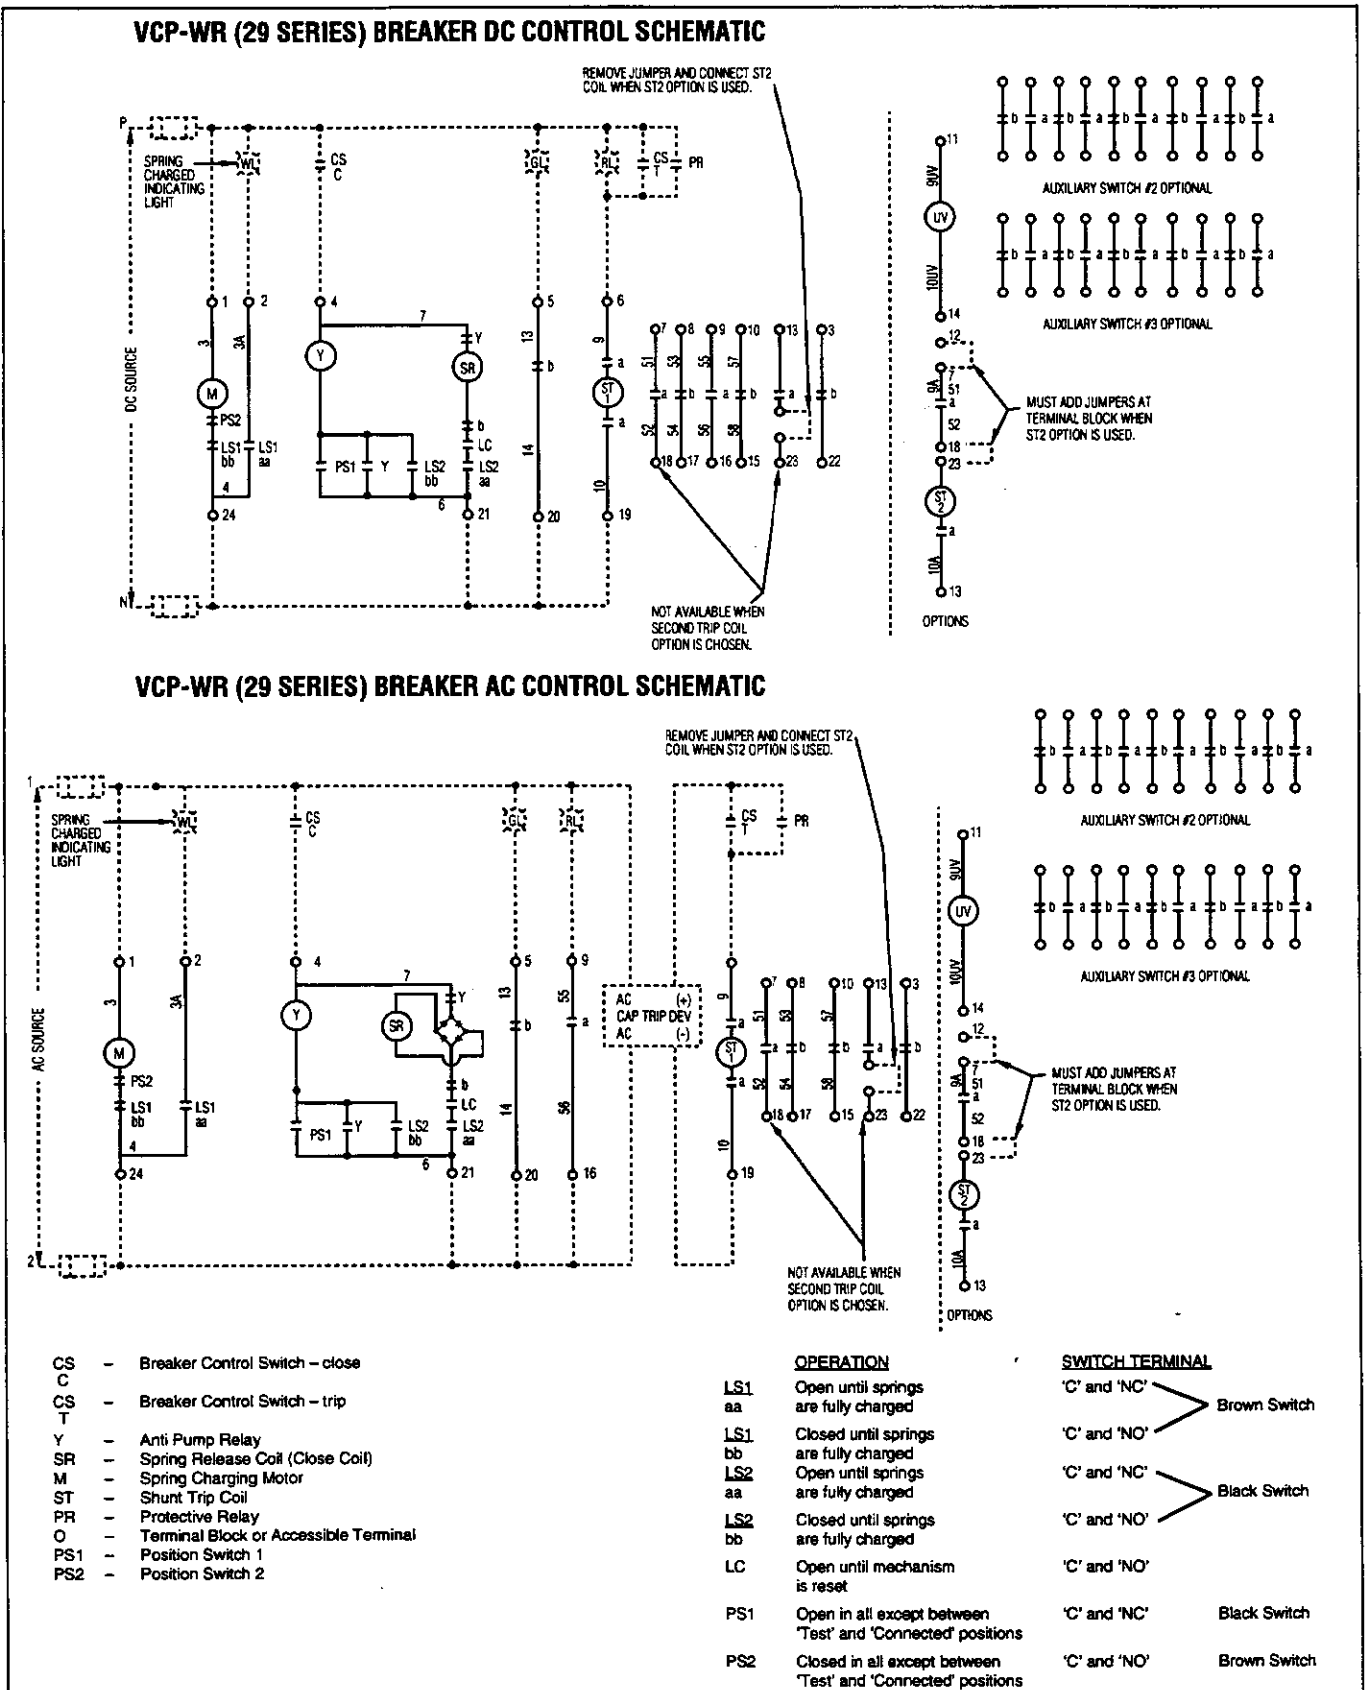

Figure 6.8 Typical Series 29 "DC" and "AC" Control Schematics
- Review the Series 20 specific control scheme (Figure 6.8) and the outline drawing (Figure 1.3) presented earlier before proceeding.
Secondary control access is provided by 2 12-point secondary control terminal blocks located at the bottom of the breaker element (Figure 3.6). The Series 29 control scheme indicates which points are used for breaker operation and which are available for customer use (Figure 6.8).